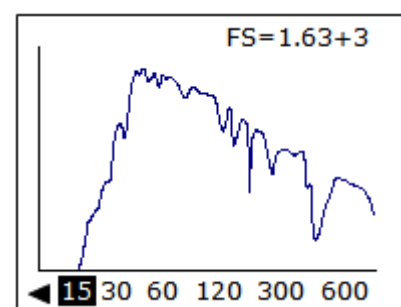

Figure 6-11.
- (1) Select [INT] in MEASURE Screen or Spectral Data Display Screen.
- (2) Measurement interval time is displayed at the bottom of Interval Measurement Setting Screen (Figure 6-11). The interval measurement is taken at the multiplied seconds of the selected interval time.